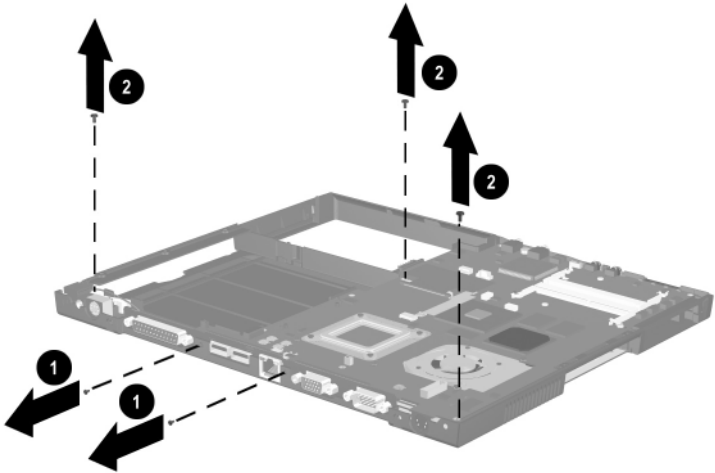

Figure 5-24. Removing the System Board Screws on an Evo Notebook N610c
6. Remove the two TM2.5 × 5.0 screws ❶ that secure the system board to the base enclosure through the rear panel (Figure 5-24).
7. Remove the three TM2.5 × 5.0 screws ❷ that secure the top cover to the base enclosure.